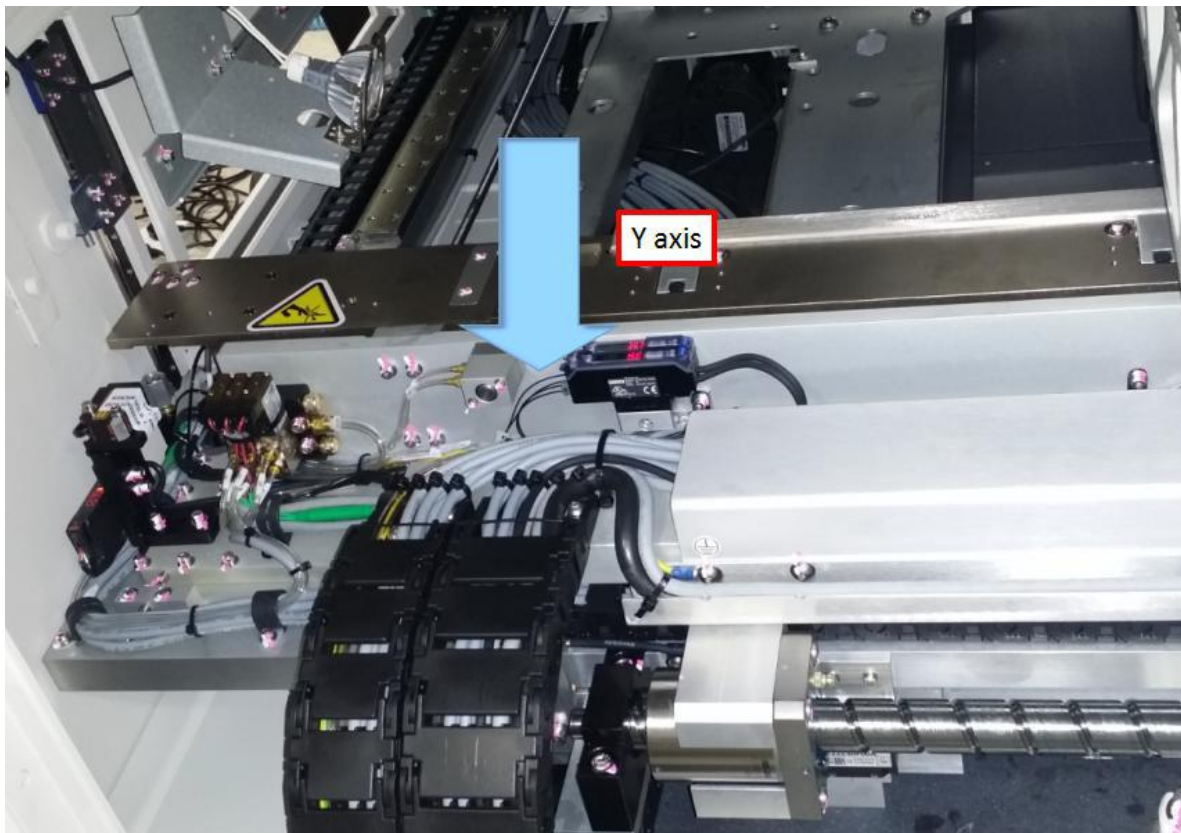

Figure 6 Y axis Minimum hard stop (V810 Std)
7. Push the stage towards the minimum hard stop (front access door) as shown in below Figure 6.